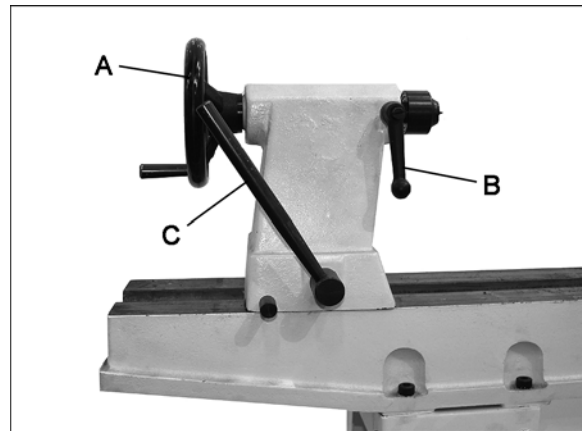

Figure 5
**Tailstock Handwheel** (A, Fig. 5) - turn clockwise to move tailstock spindle forward. Turn counter-clockwise to retract tailstock spindle.
**Tailstock Spindle Lock** (B, Fig. 5) - locks tailstock spindle. Release to adjust handwheel.
**Tailstock Lock** (C, Fig. 5) - locks tailstock in position on the bed. Release to move tailstock assembly closer to or farther from the headstock.